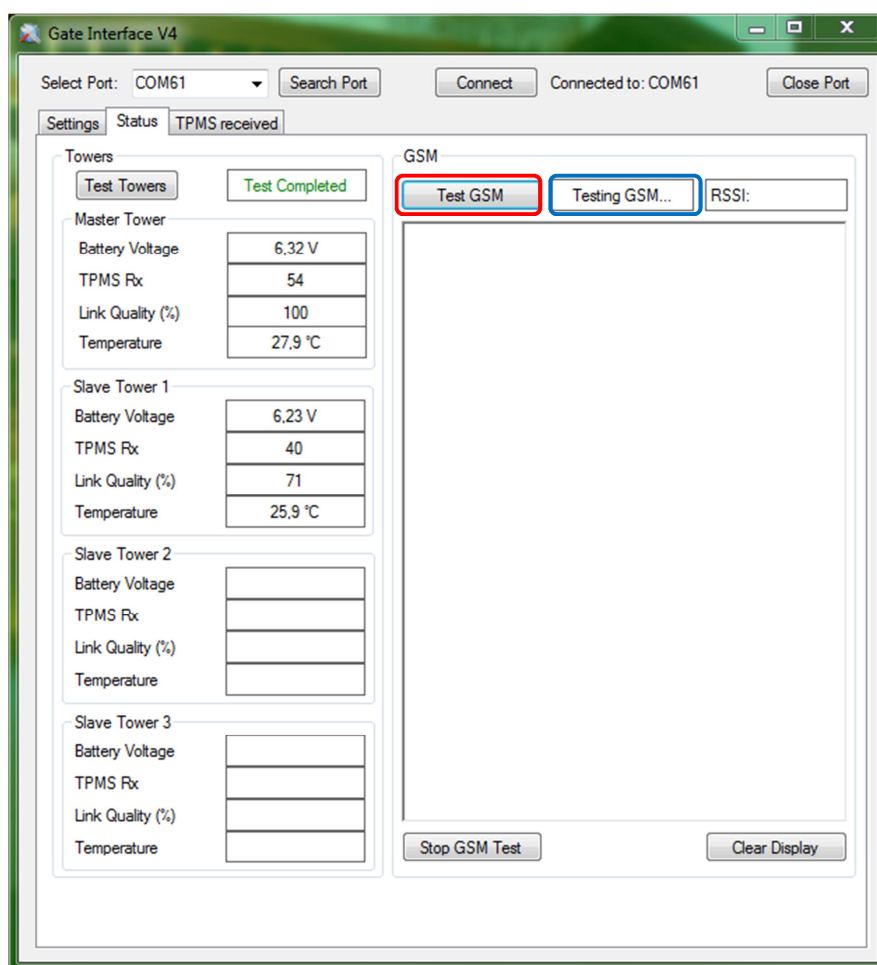

Figure 14 – GSM Test start
2. On Gate Interface V4, to start GSM test click the “Test GSM” button, as shown in Figure 14. System status will change to “Testing GSM” and results are printed on the screen below.